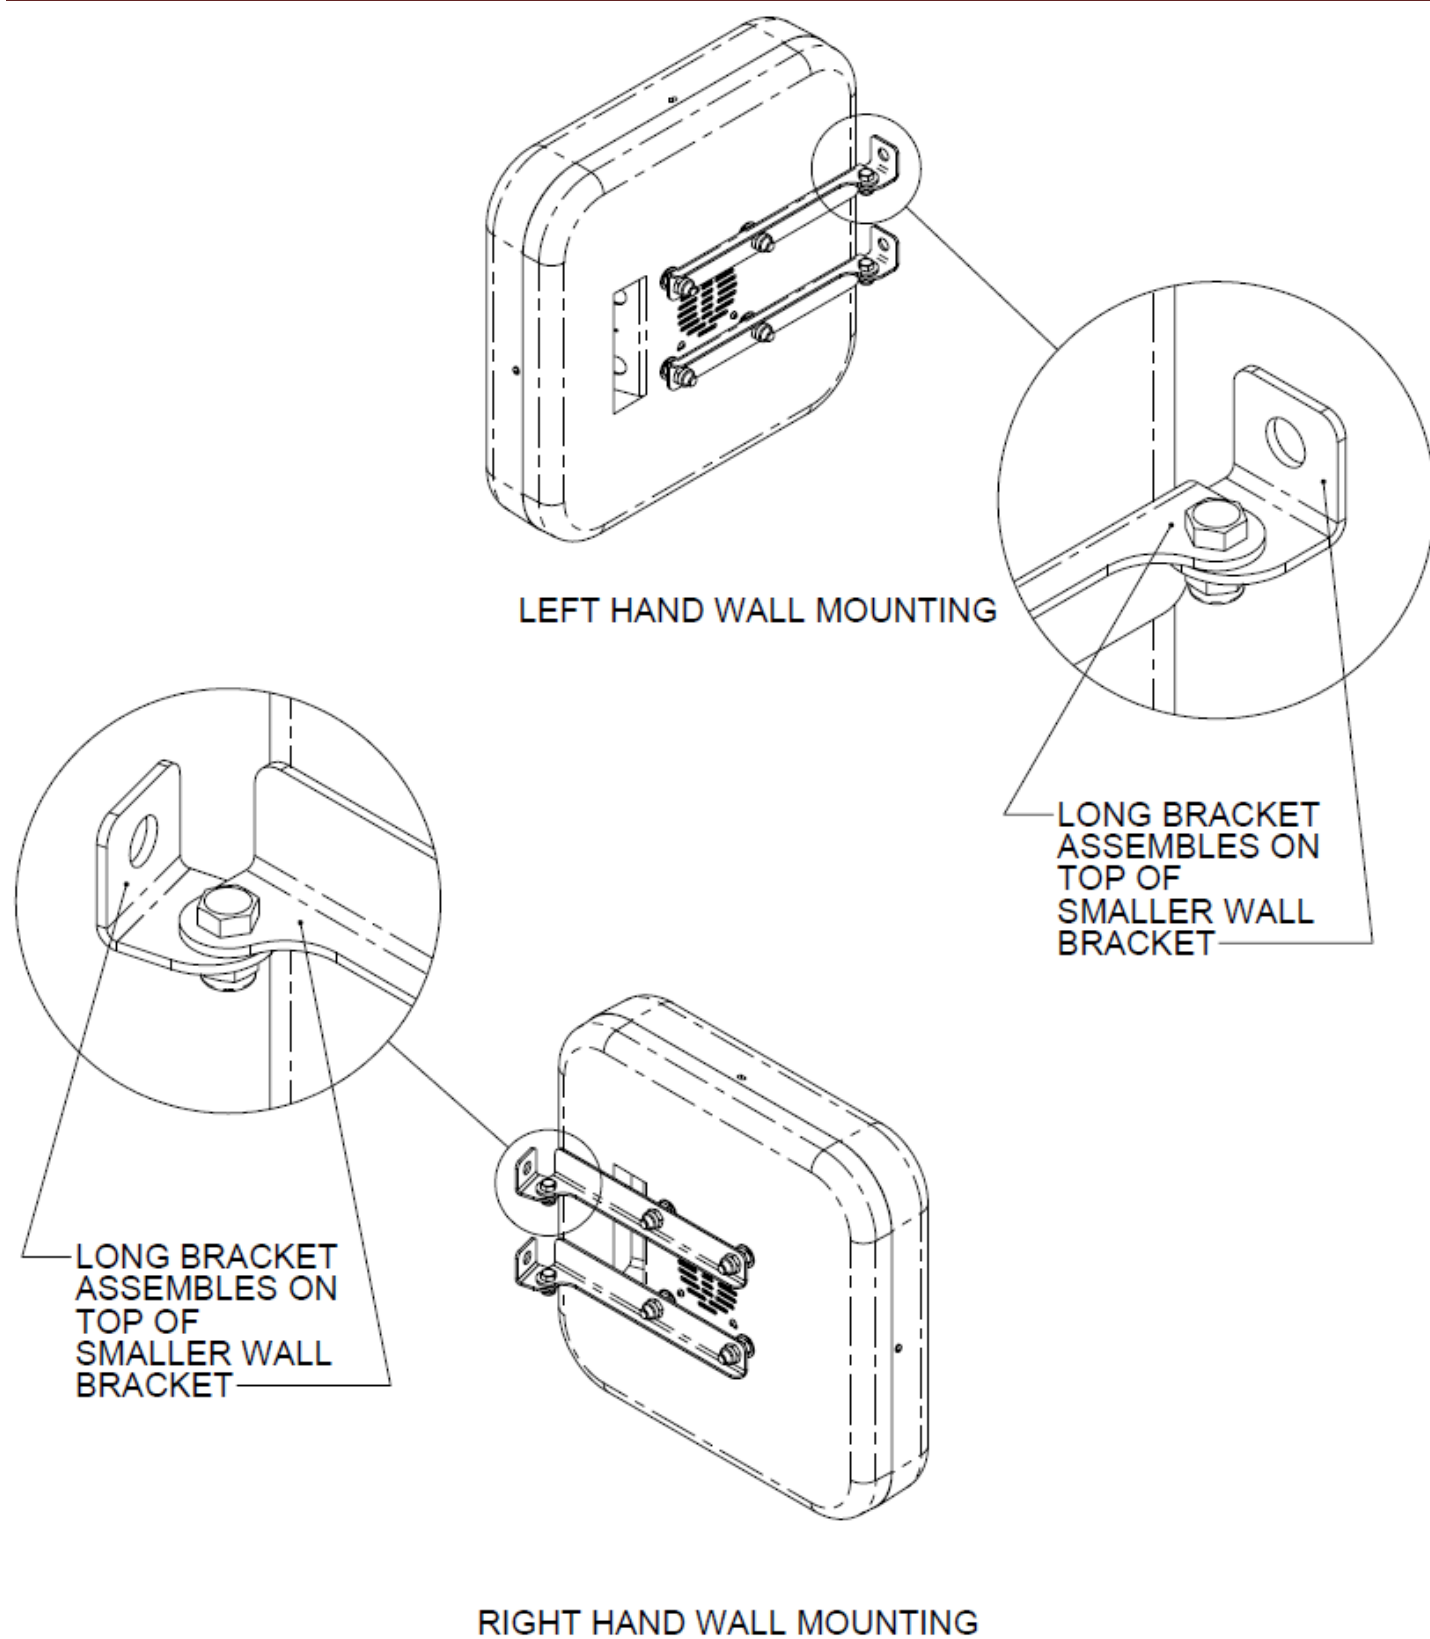

Figure 178 - Sign Wall Mount Brackets for Left and Right Wall Mounting
- The sign is built with the wall mount brackets oriented for mounting to the left side wall of the wash bay. If it is necessary to mount it to the right-side wall, the brackets may be disassembled and flipped so that the mounting holes point in the proper direction for mounting to the right wall. When reassembling the brackets, always be sure the long brackets attached to the sign back are assembled on top of the smaller wall brackets, Figure 178.
- The sign is built with the wall mount brackets oriented for mounting to the left wall of the wash bay. If it is necessary to mount the sign to the right wall, the brackets may be disassembled and flipped so that the mounting holes point in the proper direction for mounting to the right wall. When reassembling the brackets, always be sure the long brackets attached to the sign back are assembled on top of the smaller wall brackets, Figure 178. As an alternative mounting, the Entrance Sign may be mounted above the entrance door to the wash bay.